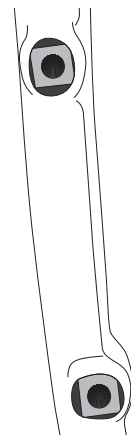
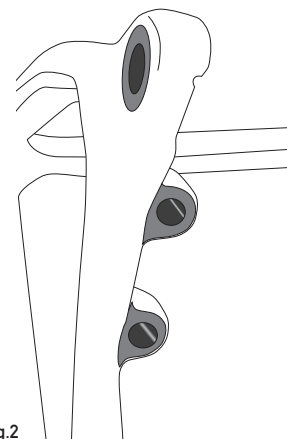

Fig.1
Fig.2
**NOTE FOR SPECIALISED MECHANICS:** To prevent callipers from being installed incorrectly in relation to the discs or to prevent them from bending after use, remove all traces of paint or coarse material from the surfaces on which the callipers are to be installed, i.e. on the front fork (Fig. 1) and near the holes on the left-hand chain stay. Also remove any traces of paint or coarse material from the bottom surfaces of the holes on the chain stay (Fig. 2), where the heads of the rear calliper locking screws will rest. An incorrectly installed calliper causes misalignment with the disc, the disc therefore touches the pads causing functioning problems.